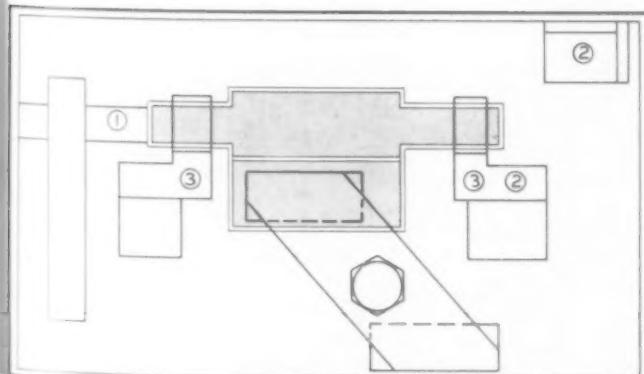
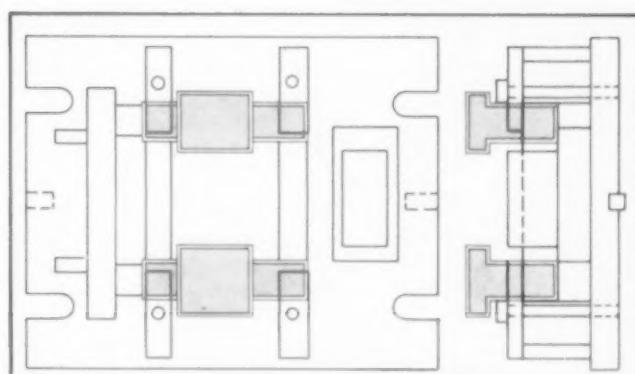

FIG. 19
FIG. 20
Fig. 19, shows the plan view of a milling fixture. The work rests and is held against a combination rest and stop (3). The milling thrust is taken by a stop (1). The work is held down by a strapclamp, which is cut under an angle to gain some length. In this case the work is to be milled on two faces (marked by a heavier line) which sit higher than the blocks and clamp. In line with these faces, but below them, are the faces of hardened and ground gage blocks, 2, for setting the cutter. These blocks are so ground that their use requires a 1/64 in. shim, indicated on the drawing.
Fig. 20, Plan and side views of a double milling fixture. While one part is being milled, the other side can be unloaded and reloaded. The principal parts of the fixture are the same as explained in Fig. 19. The fixture also shows slots in the base plate, fitting the long slots in the milling machine table to hold down the fixture, and two keys to align the fixture with the centerslot of the machine table.